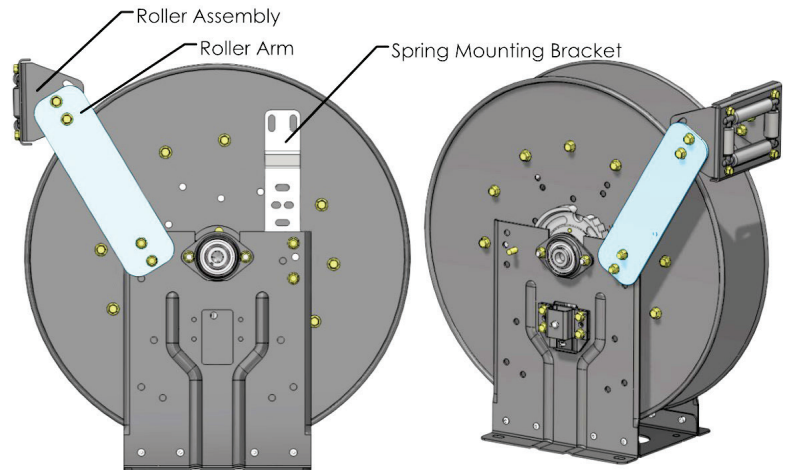

Figure 8 - Reel with Rollers in the “TR” Position
4. Move the Roller Arms to the “TR” position (Figure 8) on the back side of the reel. Align the holes and install the bolts.
5. Reposition the spring mounting bracket as shown in Figure 8, using two 3/8”-16 x 0.75 spinlock bolts and two 3/8”-16 spinlock nuts. The reel should look like Figure 8.